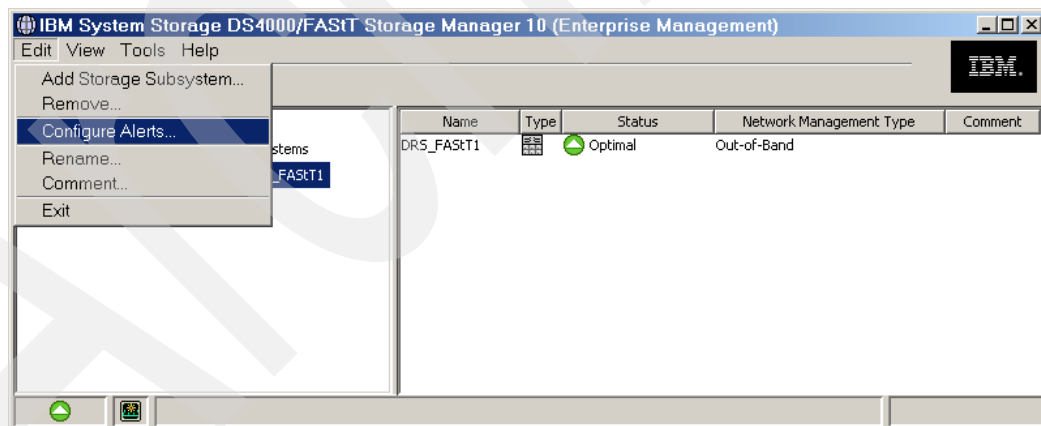

Figure 10-9 IBM DS4000 Storage Manager client Enterprise Management window
1. From each DR550 SSAM Server node, start the SMclient application. Use the AIX user `dr550` to log in. Then you have to run `su -` and switch to root. After you run `startx`, you get the graphical interface of AIX; run `SMclient`, which displays the DS4000 Storage Manager Enterprise Management window, and you will see a window similar to the one shown in Figure 10-9.